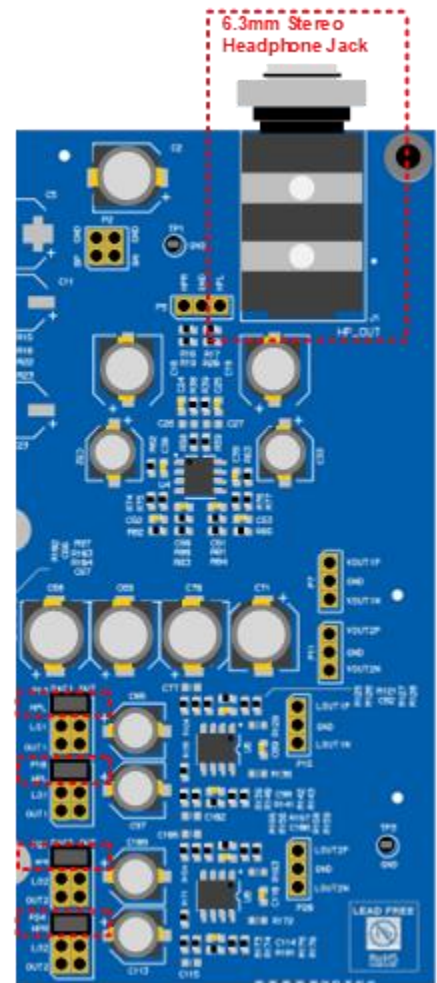

Figure 15: DAC Output to Headphone Output
- HPL/HPR – 1.76 V_{RMS} single-ended headphone output circuit, shown in Figure 15.